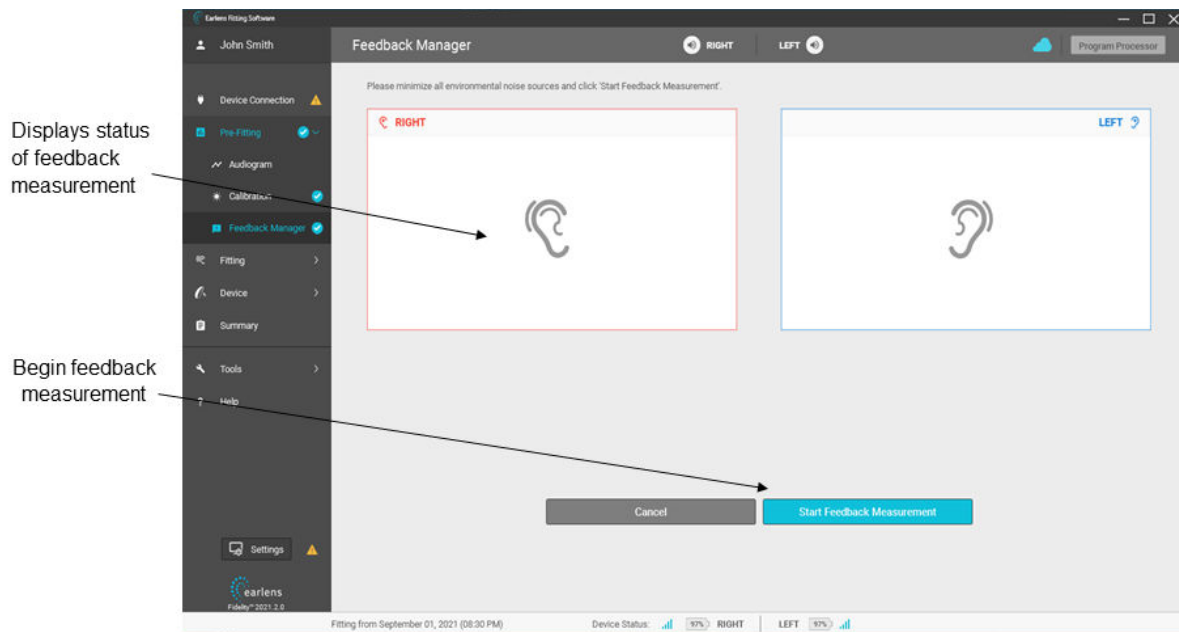

Figure 14: Feedback Manager screen
- **Feedback Manager:** Present signal to measure feedback limits (Figure 14).